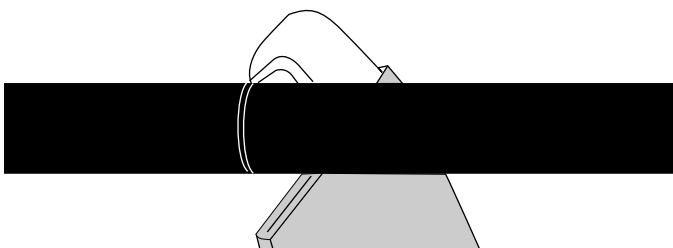

Figure 3
4.3 Use the hook blade to make a ring cut 10 cm (4 in.) from the end of the cable (Figure 3). Gently flex the cable at this second ring cut to break the sheath.